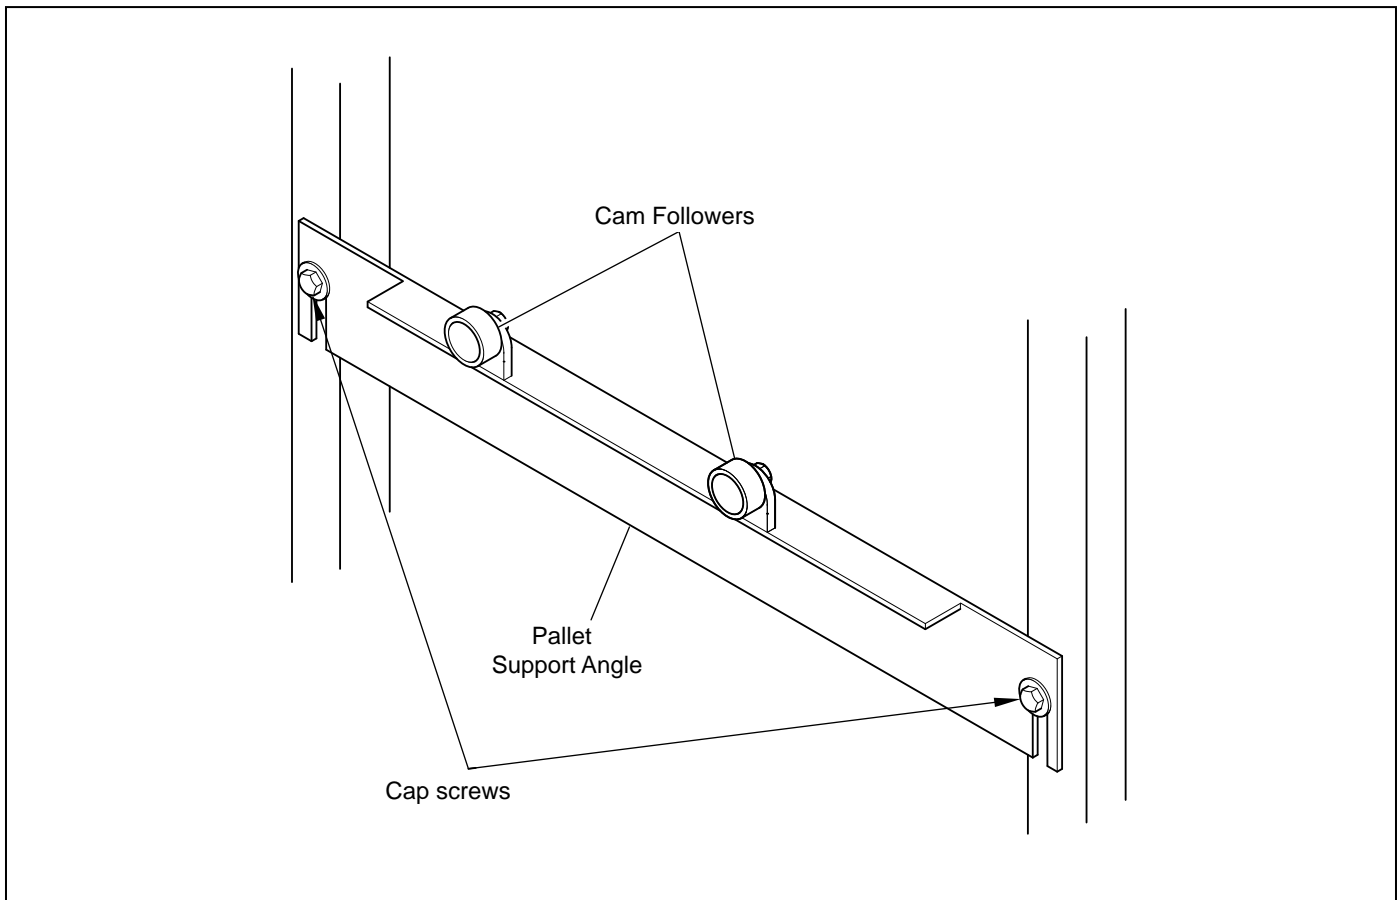

Figure 1.3 Pallet Support Angle
2. Loosen the two capscrews at each end of the support angle. (See Figure 1-3)